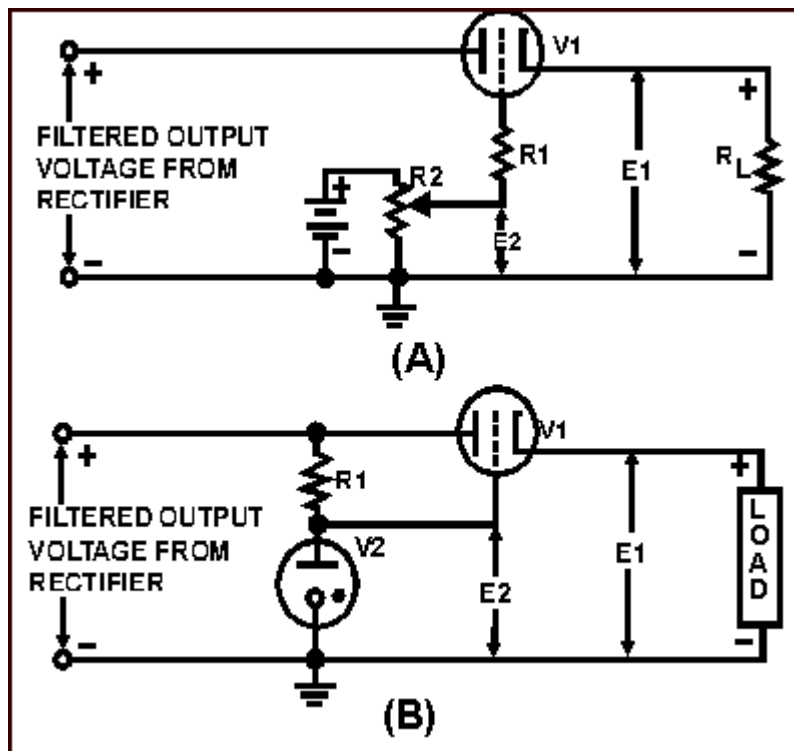

Figure 3-48.—Electron tube voltage regulator using a battery for the fixed bias
Refer to figure 3-48, view (A). The resistance of V1 is established initially by the bias on the tube. Assume that the voltage across the load is at the desired value. Then the cathode is positive with respect to ground by some voltage (E_L). The grid can be made positive relative to ground by a voltage (E_2) that is less than E_L . The potentiometer R2 is adjusted until the bias (grid-to-cathode voltage), which is $E_2 - E_L$, is sufficient to allow V1 to pass a current equal to the desired load current. With this bias, the resistance of V1 is established at the proper value to reduce the rectifier output voltage to the desired load voltage.